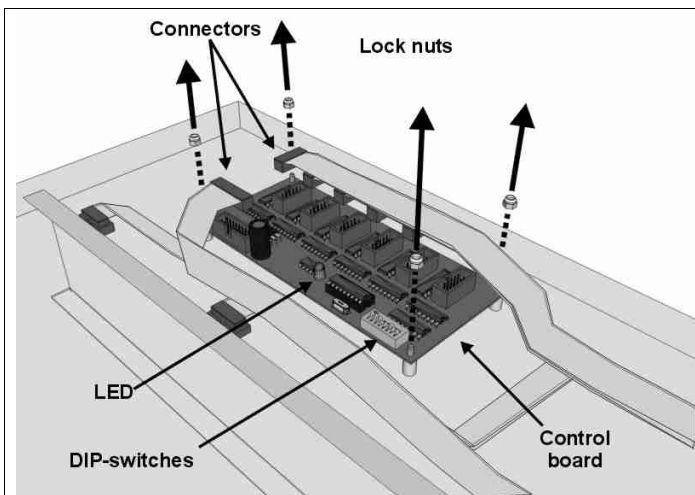

Fig. 16: Replacing a control board
- Change the connection cable between the LED display board and the control board (Fig. 16).
- identify the control board connected to the group of malfunctioning LED display boards via the 10-way flat cables (Fig. 16). When supplying power to the panel, if the LED on that control board (Fig. 16) is illuminated or flashing, then replace the control board (chapter 7.2); otherwise, if the LED is not illuminated, proceed as follows:
6. Identify the control board(s) housed inside of the support structure (Fig. 16); the malfunctioning LED display boards are connected to this control board. Keeping in mind their original positions, remove all the connectors from the control board.
7. With a 5.5 mm wrench, unscrew the 4 end nuts from the control board (Fig. 16) and remove the control board from its casing.